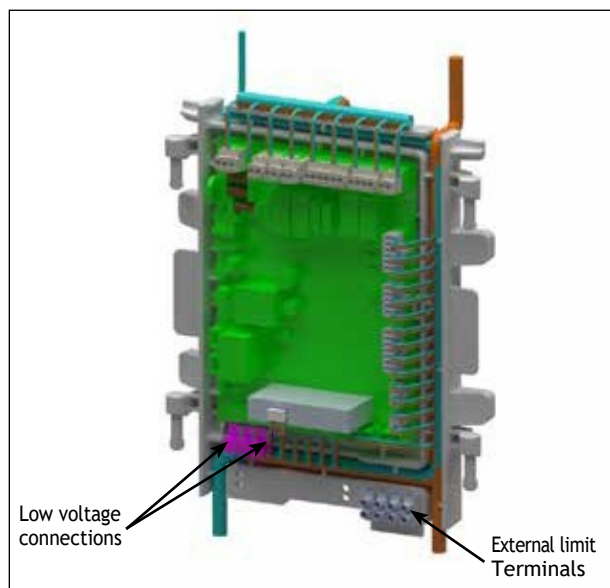

Fig. 25 - Low Voltage Connections
1. Connect the DHW aquastat or temperature sensor wires to low voltage terminals X4-1&2 located at the bottom of the CTRLMax control module as shown in *Fig. 25* on page 41.
3. Connect the external limit wires to the Manual Reset Limit or Auto Reset Limit low voltage terminals located on the lower right corner of the CTRLMax control module housing as shown in *Fig. 25 on page 41*.
1. Connect the system temperature sensor wires to low voltage terminals X5-3&4 located at the bottom of the CTRLMax control module as shown in *Fig. 25 on page 41*.